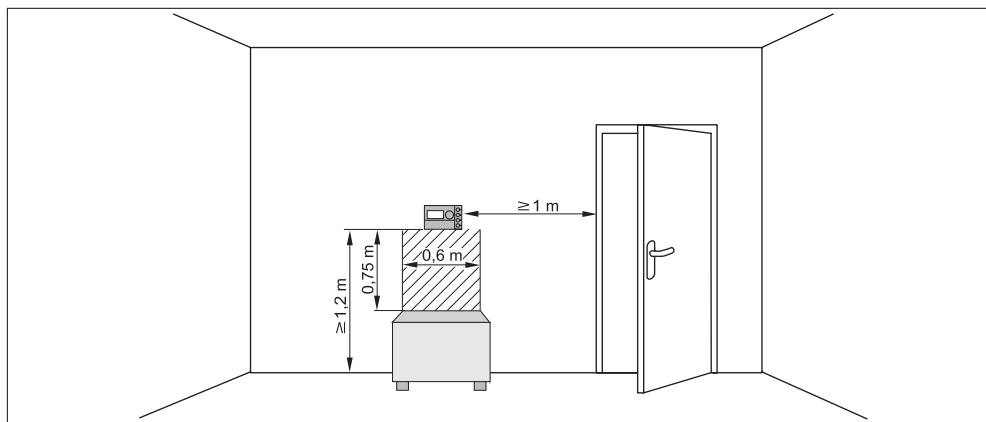

Fig. 1 Minimum clearances for installation in a reference room
- Installation position on an internal wall (Fig. 1)
- Allow clearance below the programming unit (Fig. 1, shaded area) (to ensure correct temperature measurement).